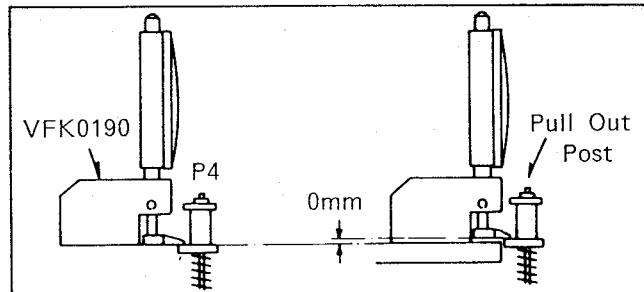

Fig. M6
- Place the Reel Table Height Gauge on the tape guide post P4, lower the scraper so that it touches the lower edges of P4, then set the gauge to zero ("0"). (Fig. M6)
- Slowly turn the nut on the post counterclockwise until the gauge reads 0mm. (Fig. M6)